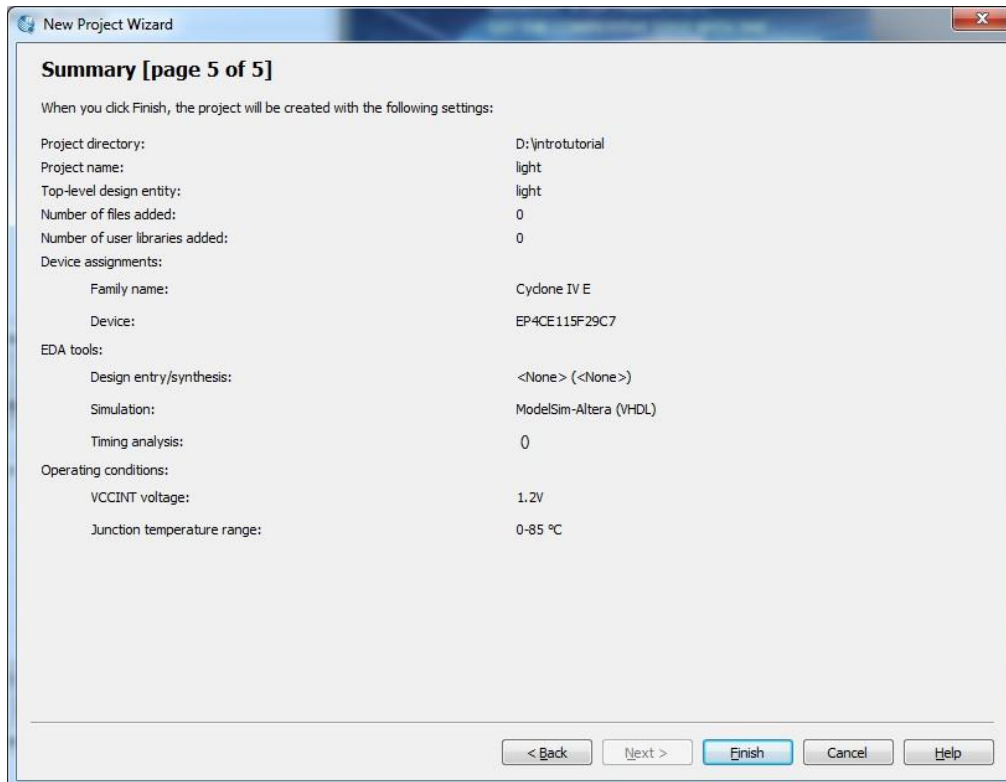
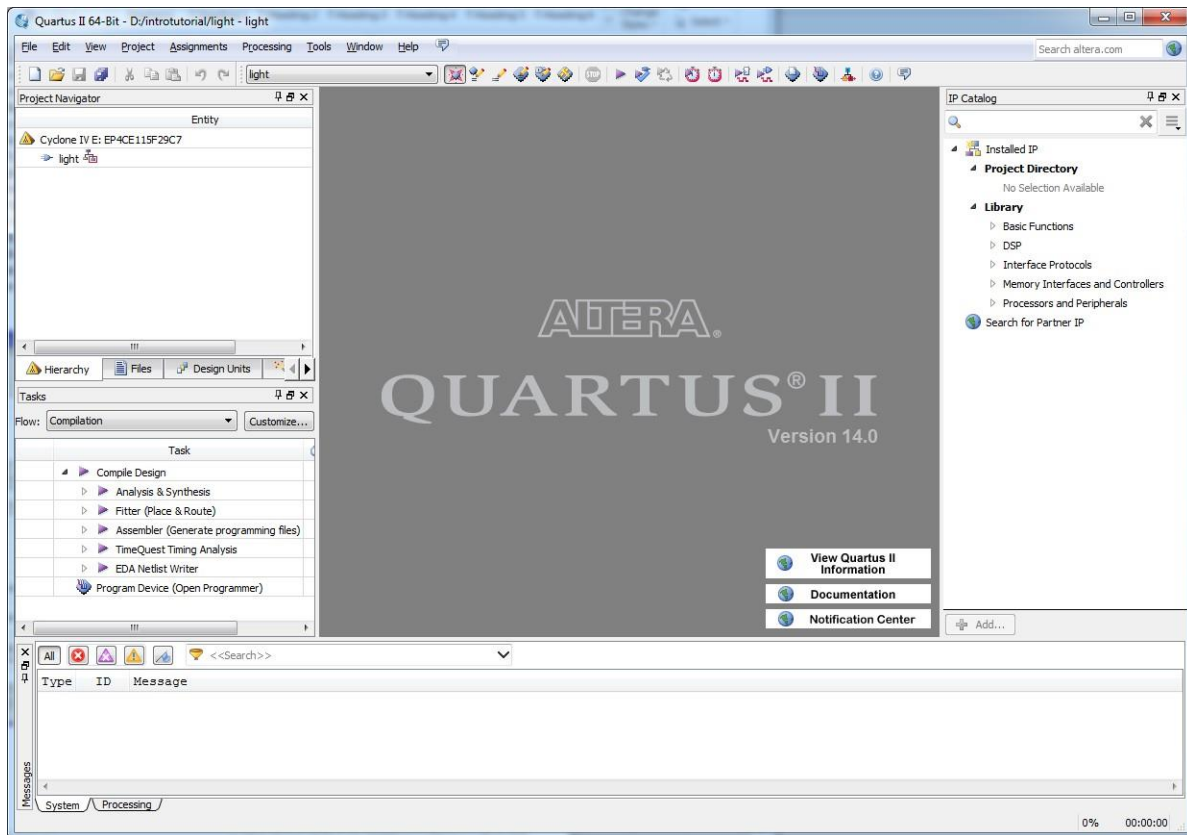

Figure 7: Summary of the project settings
Figure 8: The Quartus II display for the created project
- iii) A summary of the chosen settings appears in the screen shown in Figure 7. Press **Finish**, which returns to the main Quartus window, but with *light* specified as project, in the display title bar, as shown in Figure 8.